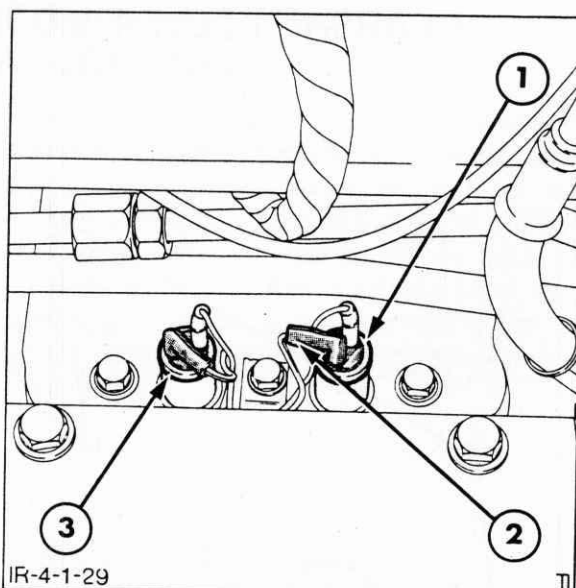

Figure 4-28
2. Remove the safety start switches from the transmission top cover, Figure 4-28, and then remove the switch plungers from the transmission housing.